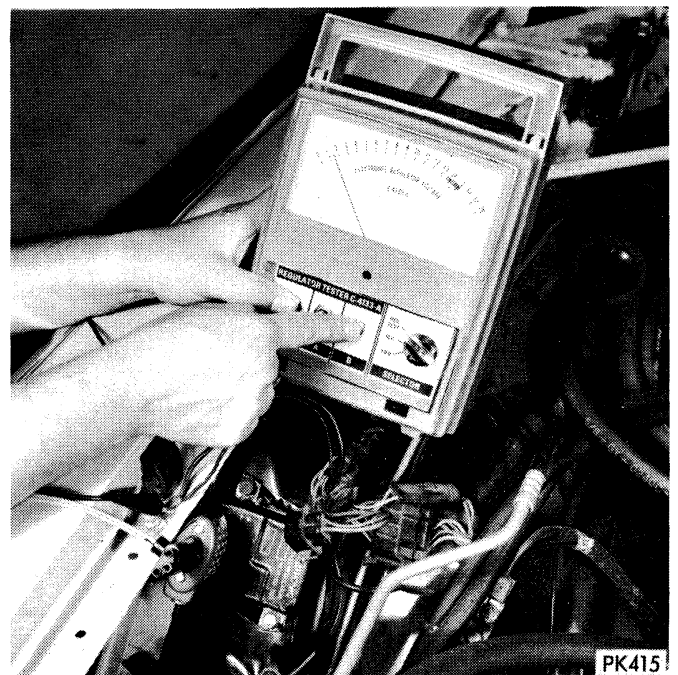

Fig. 11—Voltage Regulator Test (Depressing Test Button "B")
(8) While holding the test button in, depress **Red Button (B)** (Fig. 11), the meter should read above 0.7 volts.
(9) If all tests remain within limits the voltage regulator is good.